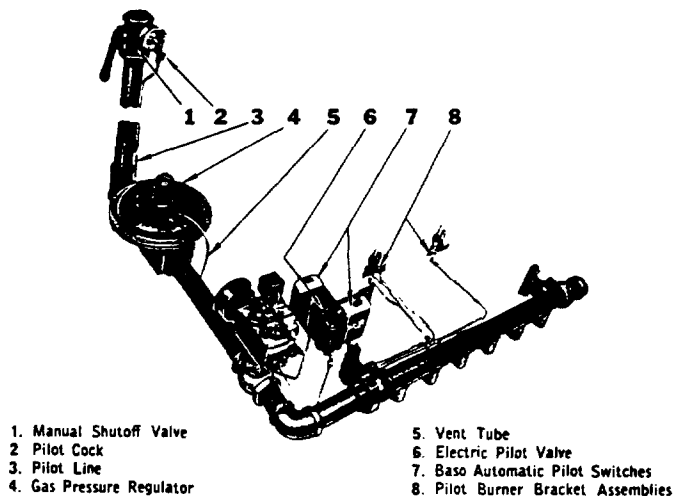

FIG. 21—Control Connections
1. Connect pilot line from manual shutoff valve assembly, see Fig. 15, to electric pilot valve. Then connect pilot line from electric pilot valve to pilot burners. Attach bracket containing electric pilot valve and BASO 850 switches to burner access door frame with one 10-24 x $\frac{1}{2}$ screw and one $\frac{3}{8}$ -16 x 1" brass hex head cap screw which holds burner access door frame in place. See Fig. 21.